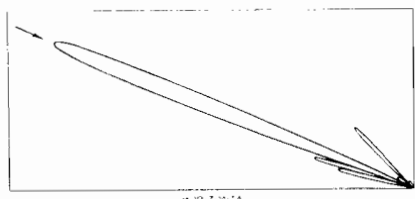

Fig. 3. Receiving characteristics of the experimental musa.
Here it is noted that only the odd harmonic terms appear as would be expected if positive and negative portions of the wave are identical. Fig. 3-A shows the various terms of (2) plotted against frequency. The
quency components are included, the perfect rectangular wave is obtained. If an amplifier is to amplify this steady-state rectangular wave, its ability to reproduce the perfectly square top is dependent upon its ability to amplify the high-frequency components of the wave. Any finite upper limit will prevent perfect reproduction of the wave shape. If an amplifier were capable of amplifying only the first 15 terms, the perfectly flat-topped original of Fig. 2-B would be distorted to that of Fig. 3-B.